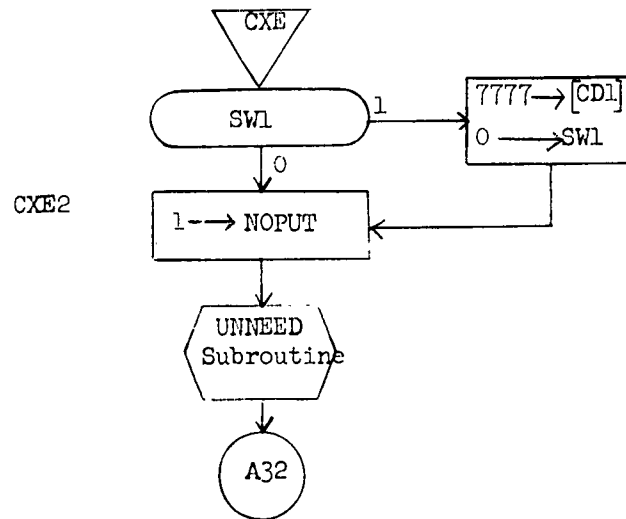

Figure 7.8 CXE
7.2.3.5 CXE End Command (Figure 7.8)